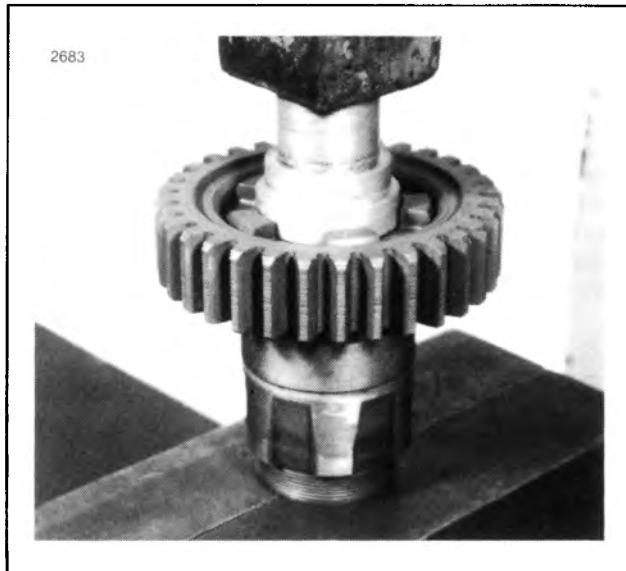

Figure 7-31. Installing Transmission Side Needle Bearing in Main Drive Gear
11. See Figure 7-31. Turn over the main drive gear in the arbor press. With the tool HD-34734, at the 0.090 in. step, press in inner module bearing.